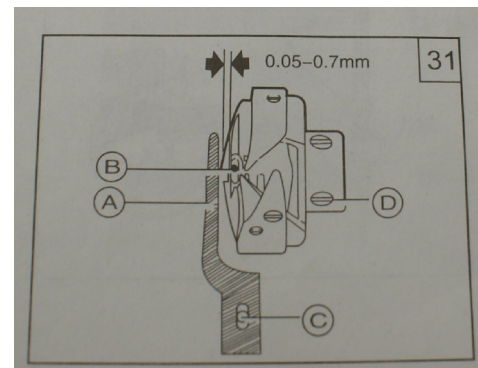

Figure 83
Step 4: Check the protection flange of the position bracket (A). This should be engaged in the notch (B) of the bobbin case holder. (D) in the drawing shows the set screw to adjust hook timing. *See figure 83*
Step 13: Refer to drawing 31 *see figure 83* for position of the three screws (D). Loosen the three screws holding the hook assembly to the shaft. (Note you will have to rotate the hand wheel to get to all three screws.)